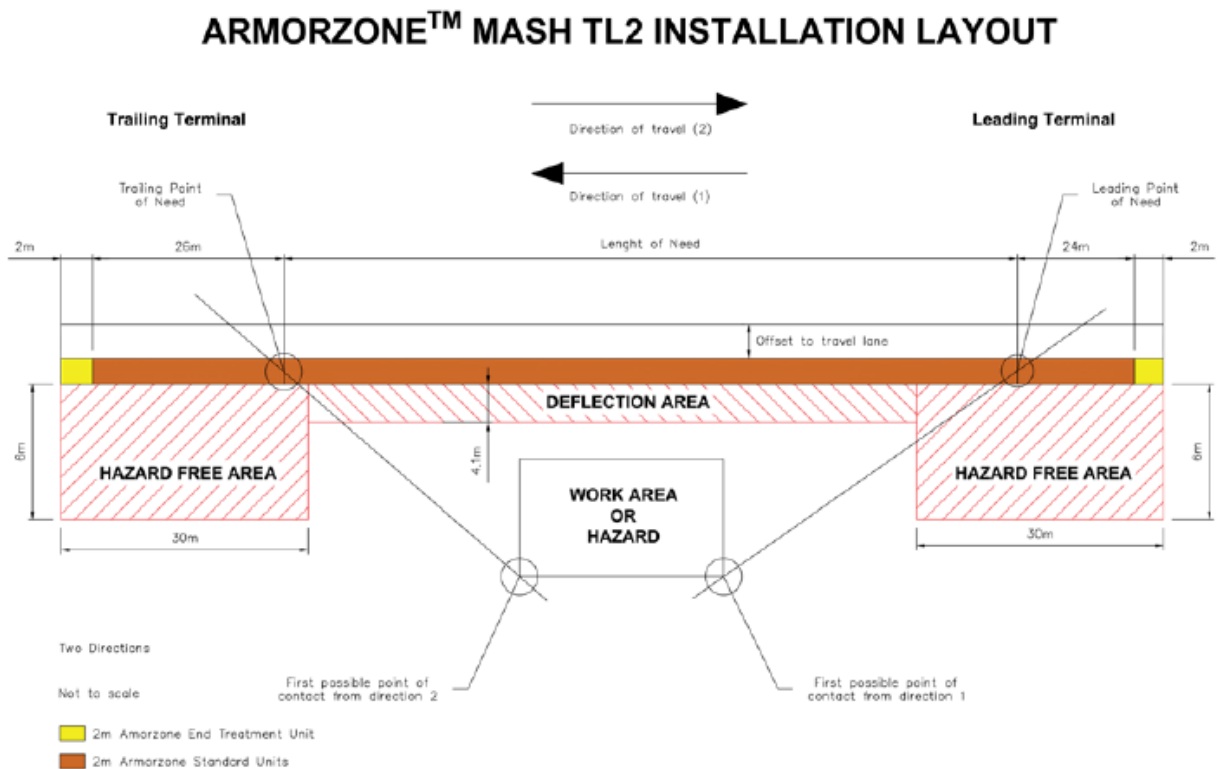

Figure 3: ArmorZone MASH Layout Diagram
- Plant, personnel or roadside hazards should not be located within the hazard free and deflection area as shown in Figure 3.